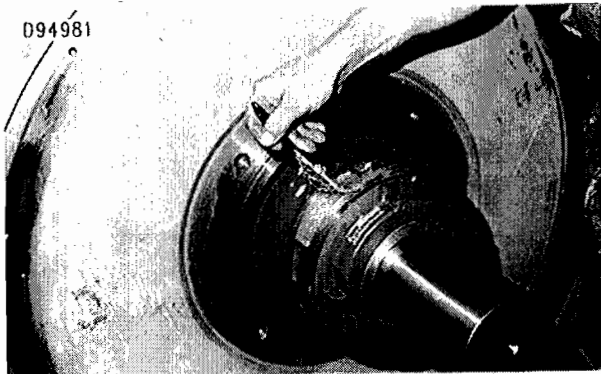

Figure 20
8. Assemble the two halves of the housing. (The outer race halves should be in the housing halves). Tighten the joint screws, making sure the end faces are flush. Lubricate the spherical seating. MolyKote or similar is advantageous. Rotate the cartridge so that the projecting boss is on top. See figure 20.